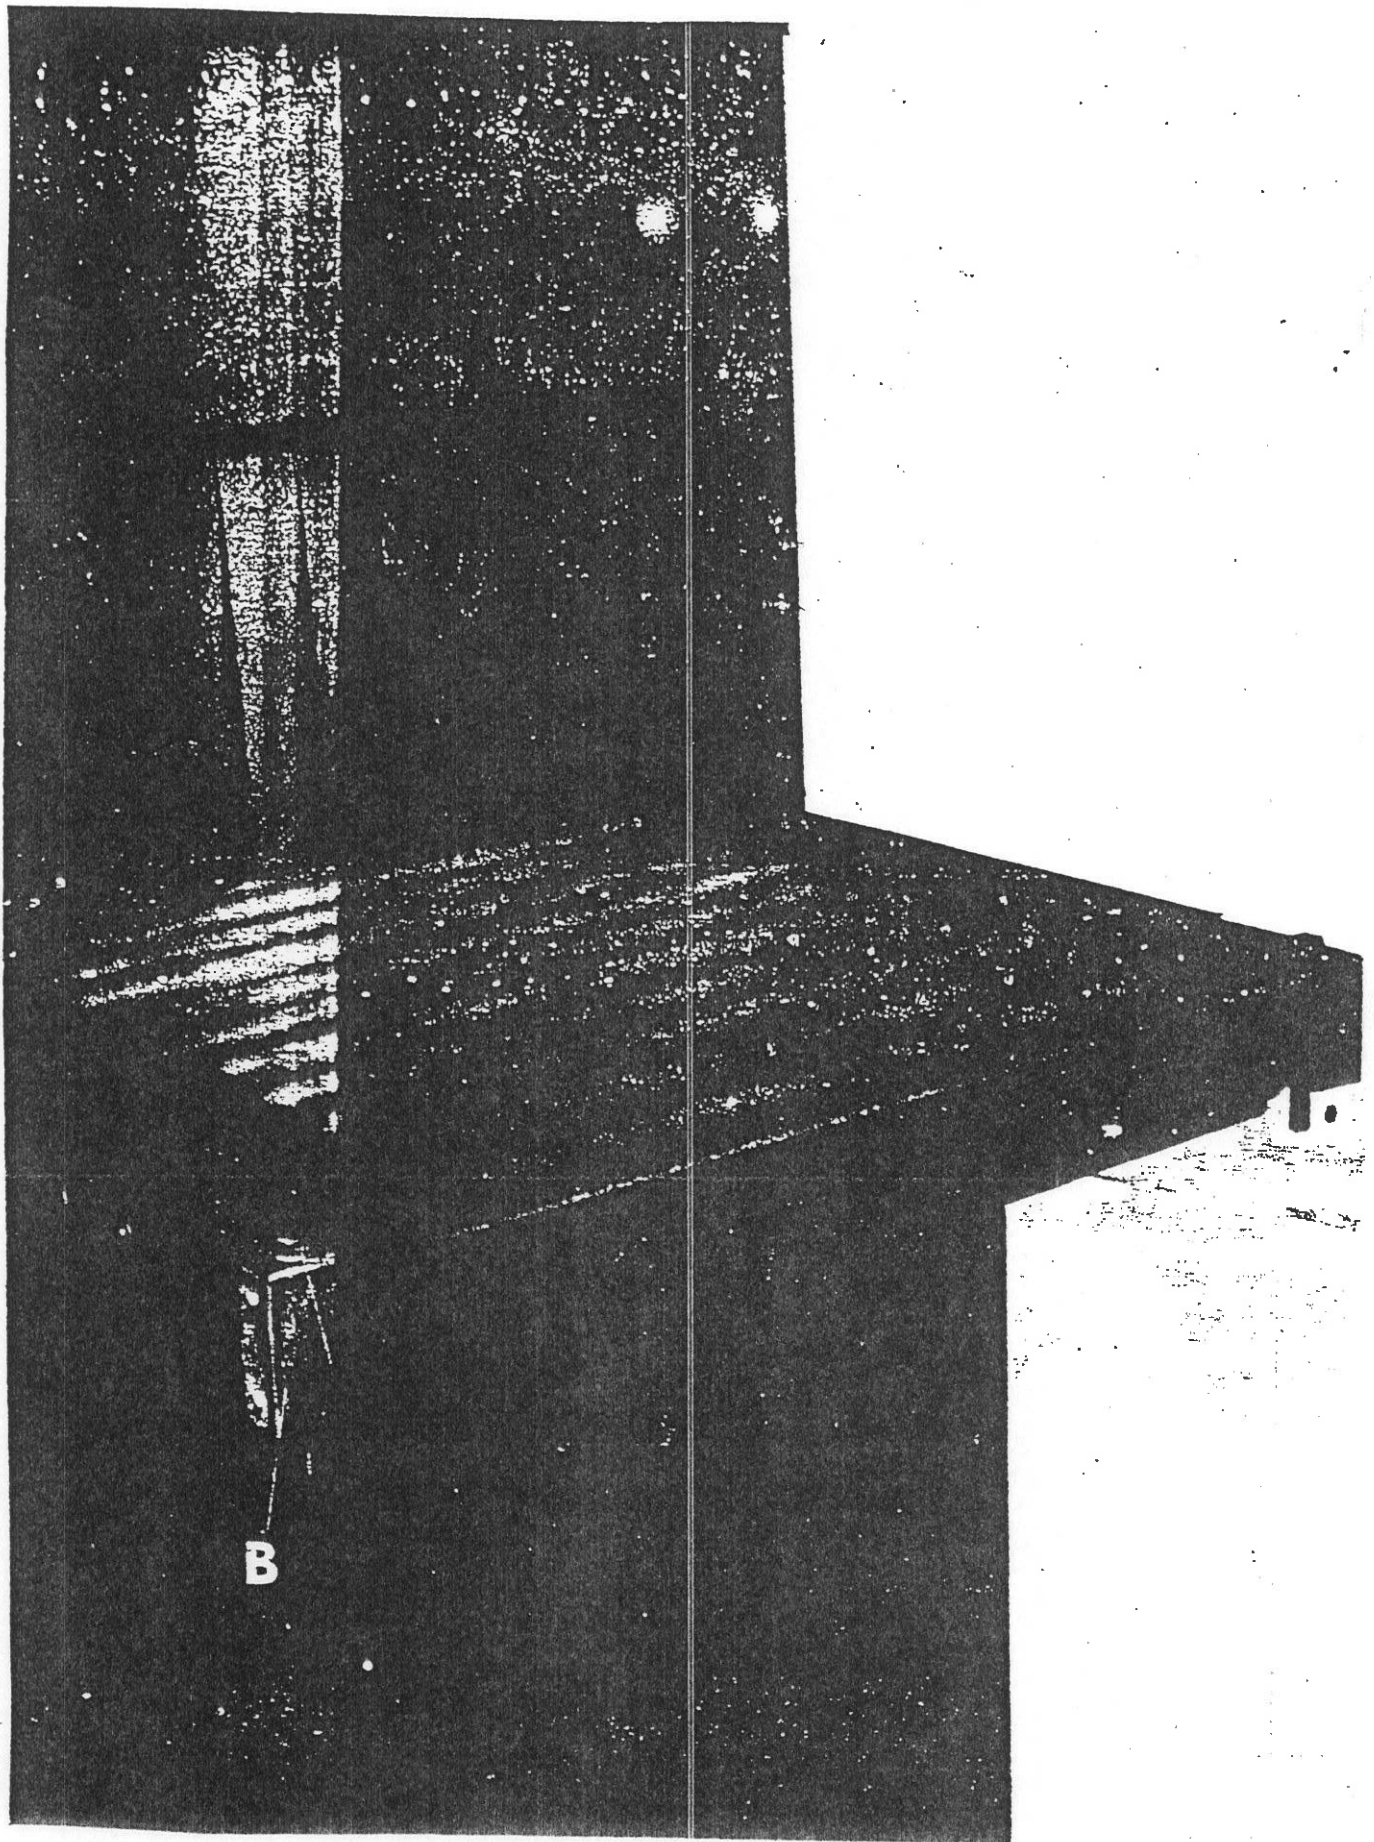

Figure 7.2 Conveyor Maintenance
To check or adjust tension, shut off power to the tunnel. Lift both conveyor chains with the fingers and check the tension. It should allow lifting of the chains approximately one inch at a point about 6 inches from the sprockets at either end of the machine. Both chains should have approximately the same tension. If it is necessary to adjust the tension, refer to Figure 7.2. Loosen all 4 bolts "A". Extend or retract the extension frame to achieve proper tension of both conveyor chains. Tighten all 4 bolts to retain proper tension.
- b. Remove the joining links from both chains. Both chains are now open. Refer to Figure 7.2. Using an Allen-wrench, loosen both screws "D" and raise idler roller "E" to a vertical position. Pass both conveyor chains under the roller and swing the ends of the chains down so the chains hang down the infeed end of the tunnel.
- c. Using a Phillips-head screwdriver, remove both end-plates "B" of Figure 7.2. Using a wrench, loosen and remove both bolts "C" and their locking jam-nuts from the idler shaft. Remove the entire shaft, sprocket, and idler-roller assembly from the tunnel.
- e. Examine the bearings in both sprockets. If required, replace both sprockets. Install all components of the shaft, in the manner shown in Figure 7.2.